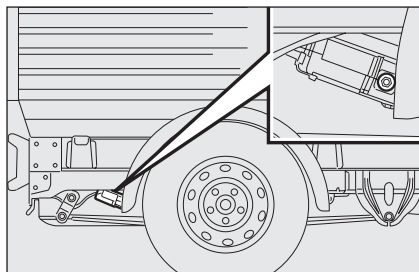

fig. 5
- ☐ for chassis-cabs, from the rear right side of the vehicle **fig. 5** use the wrench to operate the wheel restraining device screw,